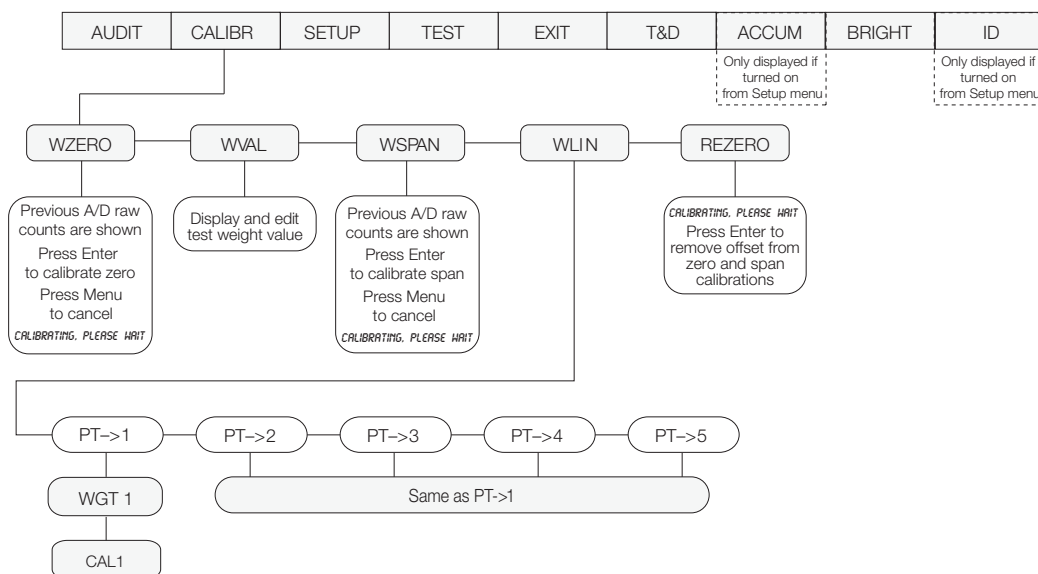

Figure 4-1. Calibration (CALIBR) menu
NOTE: Calibration can be performed in two places within the menu: the CALIBR menu shown in Figure 4-1 and the SCALE submenu shown in Figure 3-5 on page 16. The CALIBR menu shown in Figure 4-1 is a “quick access” calibration; for more in-depth scale setup and calibration, use the menus found under SETUP»CONFIG»SCALE (see Figure 3-5 on page 16).
1. Press the MENU button, then press \triangleright until the display reads CALIBR (see Figure 4-1).